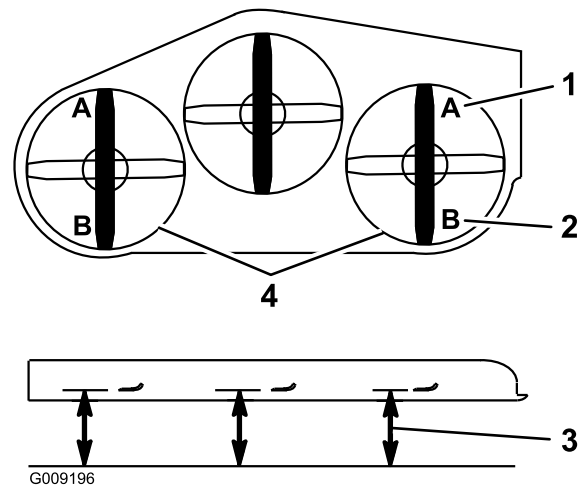

Figure 91
9. On both sides of the deck, measure from the level surface to the front tip of the blade (Position A) as shown in Figure 91.
15. On both sides of the deck, measure from the level surface to the back tip of the blade (position B) as shown in Figure 91.